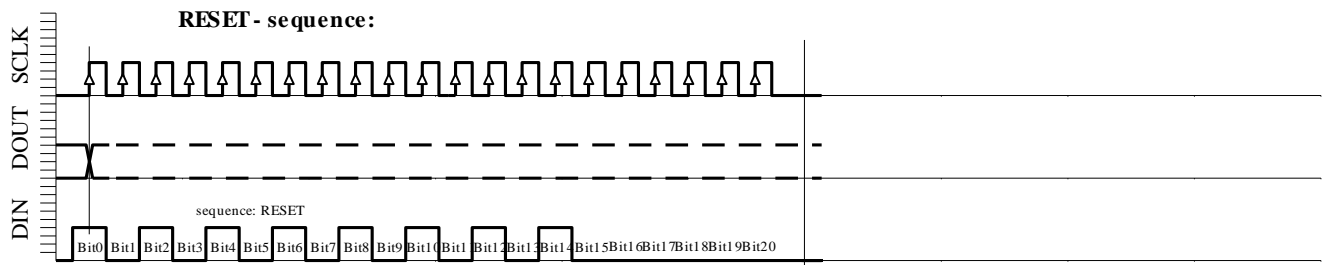

Fig. 6e: RESET sequence (21 bit)
- ◆ RESET sequence (Figure 6e)
The RESET sequence is special as the module in any state recognizes its unique pattern. By consequence, it can be used to restart if synchronization between the microcontroller and the MS5561C has been lost. This sequence is 21-bit long. The DOUT signal might change during that sequence (see Fig. 6e). It is recommended to send the RESET sequence before each CONVERSION sequence to avoid hanging up the protocol permanently in case of electrical interference.